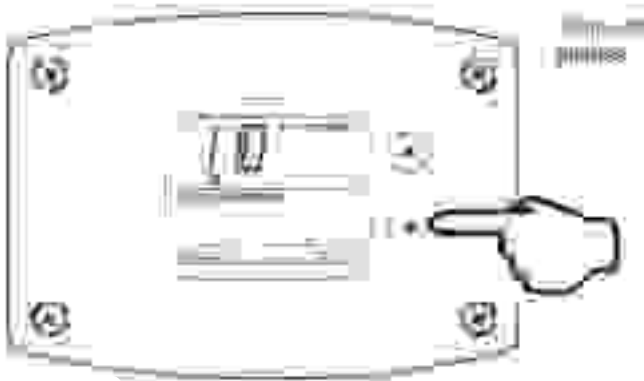

Fig. 25
2. 'Setpoint' indicator begins flashing in the display after pressing 'Temperature Down' button (Fig. 25).